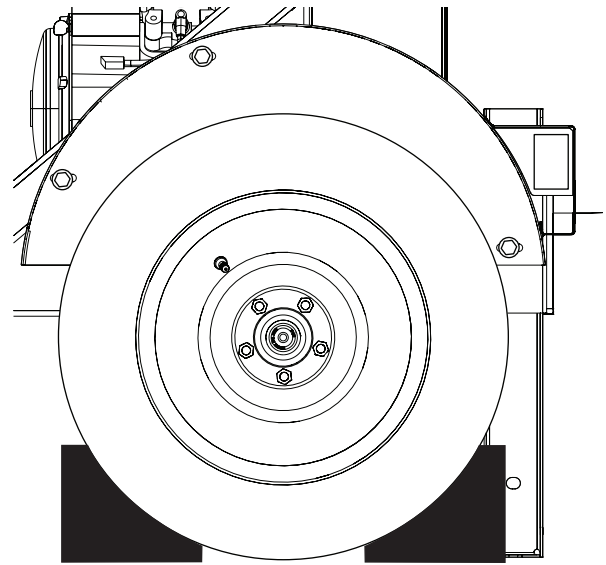

Figure 4-4. Wheel Chocks
2. Block the wheels to prevent the machine from moving. See Figure 4-4.